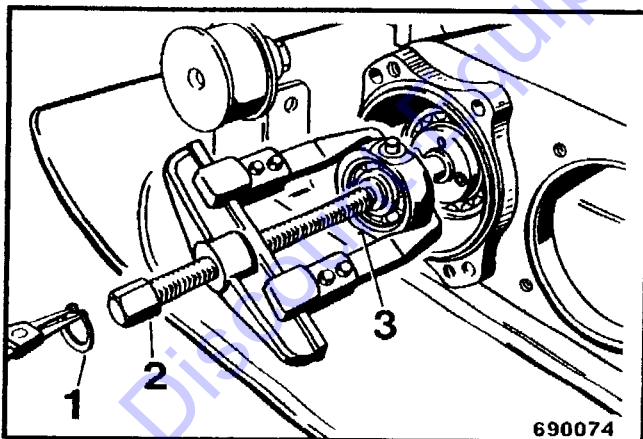

Fig. 16
- Remove the circlip 1 (Fig. 16).
- Attach the puller (2) and pull the control ring (3) off the control shaft.